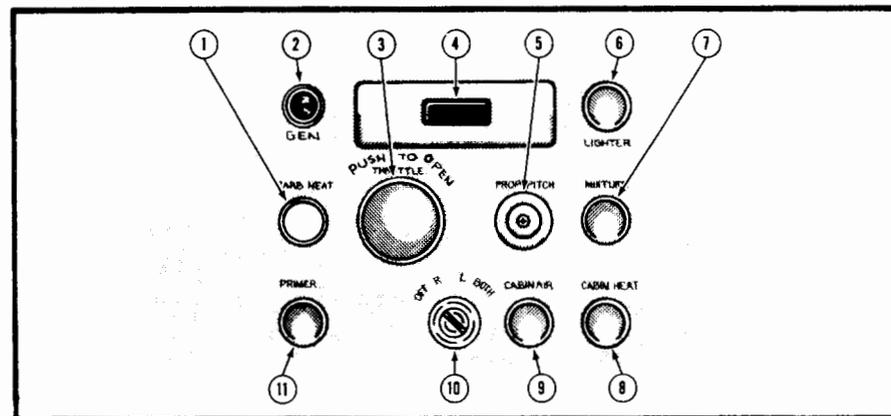

Figure 2. Control Panel
25. Control Panel (See figure 2)
The throttle (3, figure 2) is centrally located on the lower half of the instrument panel and is easily identified by its large, round knob. Engine power can be increased by pushing the throttle in toward the instrument panel or decreased by pulling the control out. To prevent the throttle from creeping, a knurled, friction-type, lock nut is incorporated on the control to secure it at any desired setting.
The mixture control (7, figure 2) is the second knob to the right of the throttle in the lower center portion of the instrument panel. A locking lever is incorporated on the control to prevent its unintentional use. *To lean the mixture*, it is necessary to depress the locking lever while pulling the mixture control knob out. This operation can be accomplished with one hand by using the thumb to press the locking lever in and the index and middle fingers to pull the mixture control knob out. The locking lever is effective only in the leaning operation. Forward movement of the mixture control is not affected by the locking lever. For detailed operating instructions on the use of the mixture control, refer to Section III.
figure 2) is located to the left of the throttle. The push-pull control operates the carburetor air intake butterfly valve which proportions the hot and cold air entering the carburetor. Pulling the control out provides heated air for the carburetor while pushing the control all the way in provides only cold air for the carburetor.
The key-operated ignition switch (10, figure 2) is located below and slightly to the right of the throttle. This switch controls the dual-magneto ignition system. The four switch positions are "OFF", "R", "L" and "BOTH". The left magneto fires the upper spark plugs on the left bank of engine cylinders and the lower spark plugs on the right bank while the right magneto fires the remaining spark plugs. The engine should be operated on both magnetos, because the dual ignition provides a more
The engine primer (11, figure 2) is a manual pump type and is located below and slightly to the left of the throttle. Regardless of the outside air temperature, use of the primer is normally required for starting the engine. The primer aids starting by supplying an initial charge of raw fuel to the engine cylinders.